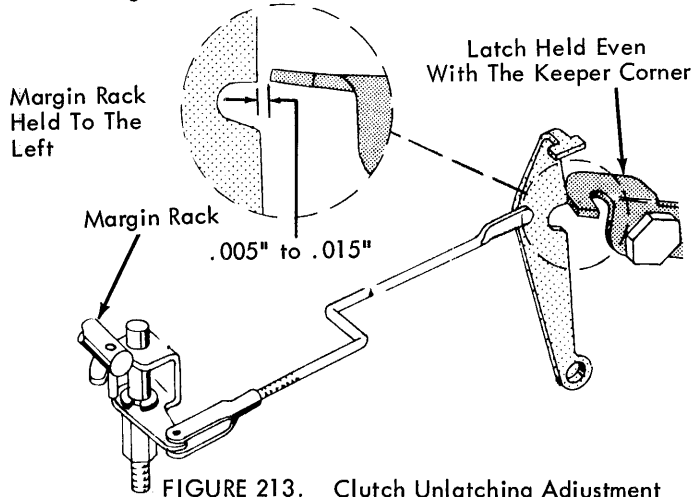

FIGURE 213. Clutch Unlatching Adjustment
9. **Clutch Unlatching** - With either style margin rack held to its extreme left position, the carrier return latch keeper should clear the latch by .005" to .015" at the unlatching point (Fig. 213). Check by manually holding the latch at the unlatching point while the machine is idling. Lengthen or shorten the carrier return unlatching link to obtain this clearance.